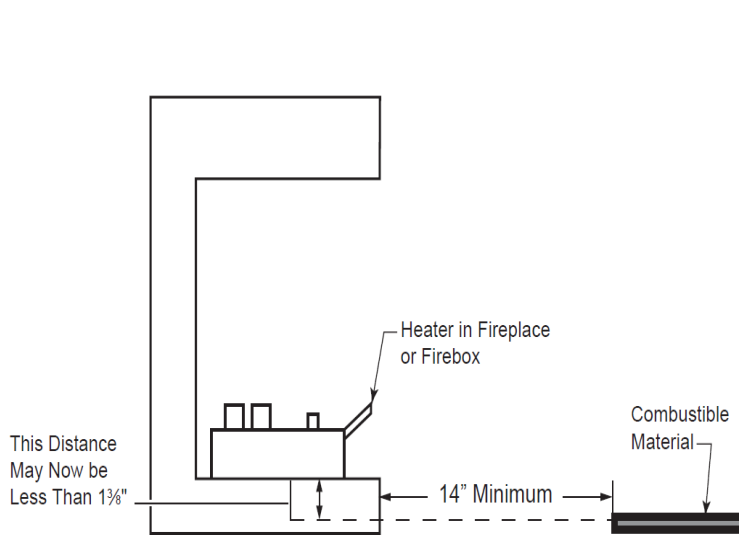

Figure 9 – Minimum Clearance Above Combustible Flooring with Noncombustible Material Installed at Base of Fireplace.
The gas log heater may be installed nearer to the floor if a minimum of 14" of noncombustible material such as a slate or marble is installed between the base of the fire place and the combustible flooring. **See Figure 9.**
1. If installing appliance on the floor, you must maintain the minimum distance of 14 inches to combustibles (see Figure 9)